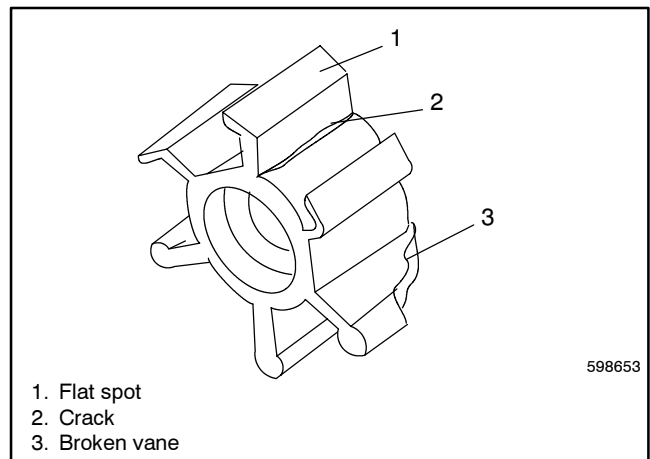

Figure 5-3 Worn Impeller
4. Inspect the impeller for damaged, cracked, broken, missing or flattened vanes. The impeller vanes should be straight and flexible. See Figure 5-3. Replace the impeller if it is damaged.